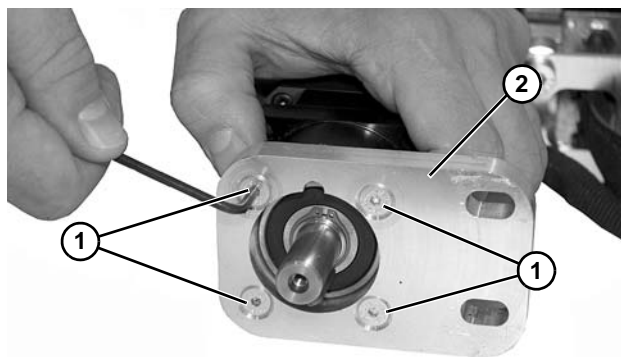

Figure 152
13. Remove socket head screws (**Figure 152, item 1**) and remove headplate (**Figure 152, item 2**) from drive motor.